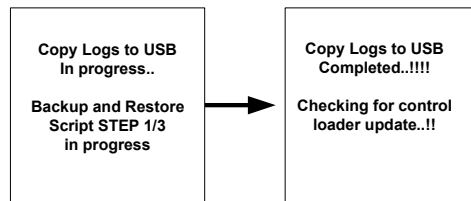

Figure 1-2 Copy Logs to USB completed screen
8. After successful boot up, inverter LCD display should show below message as shown in Figure 1-2 on page 1-5 and Grid LED and Fault LED should blink ON and OFF.